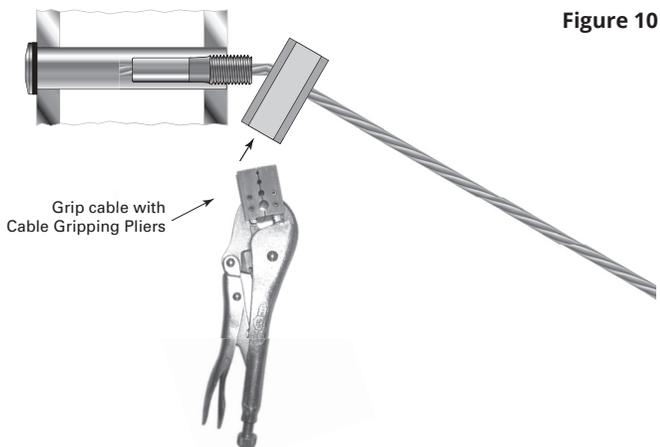

Figure 10
- Move back to the Receiver and stud end of cable and attach cable gripping pliers to the cable as close as is practical to the fittings without contacting the end post. (Figure 10)